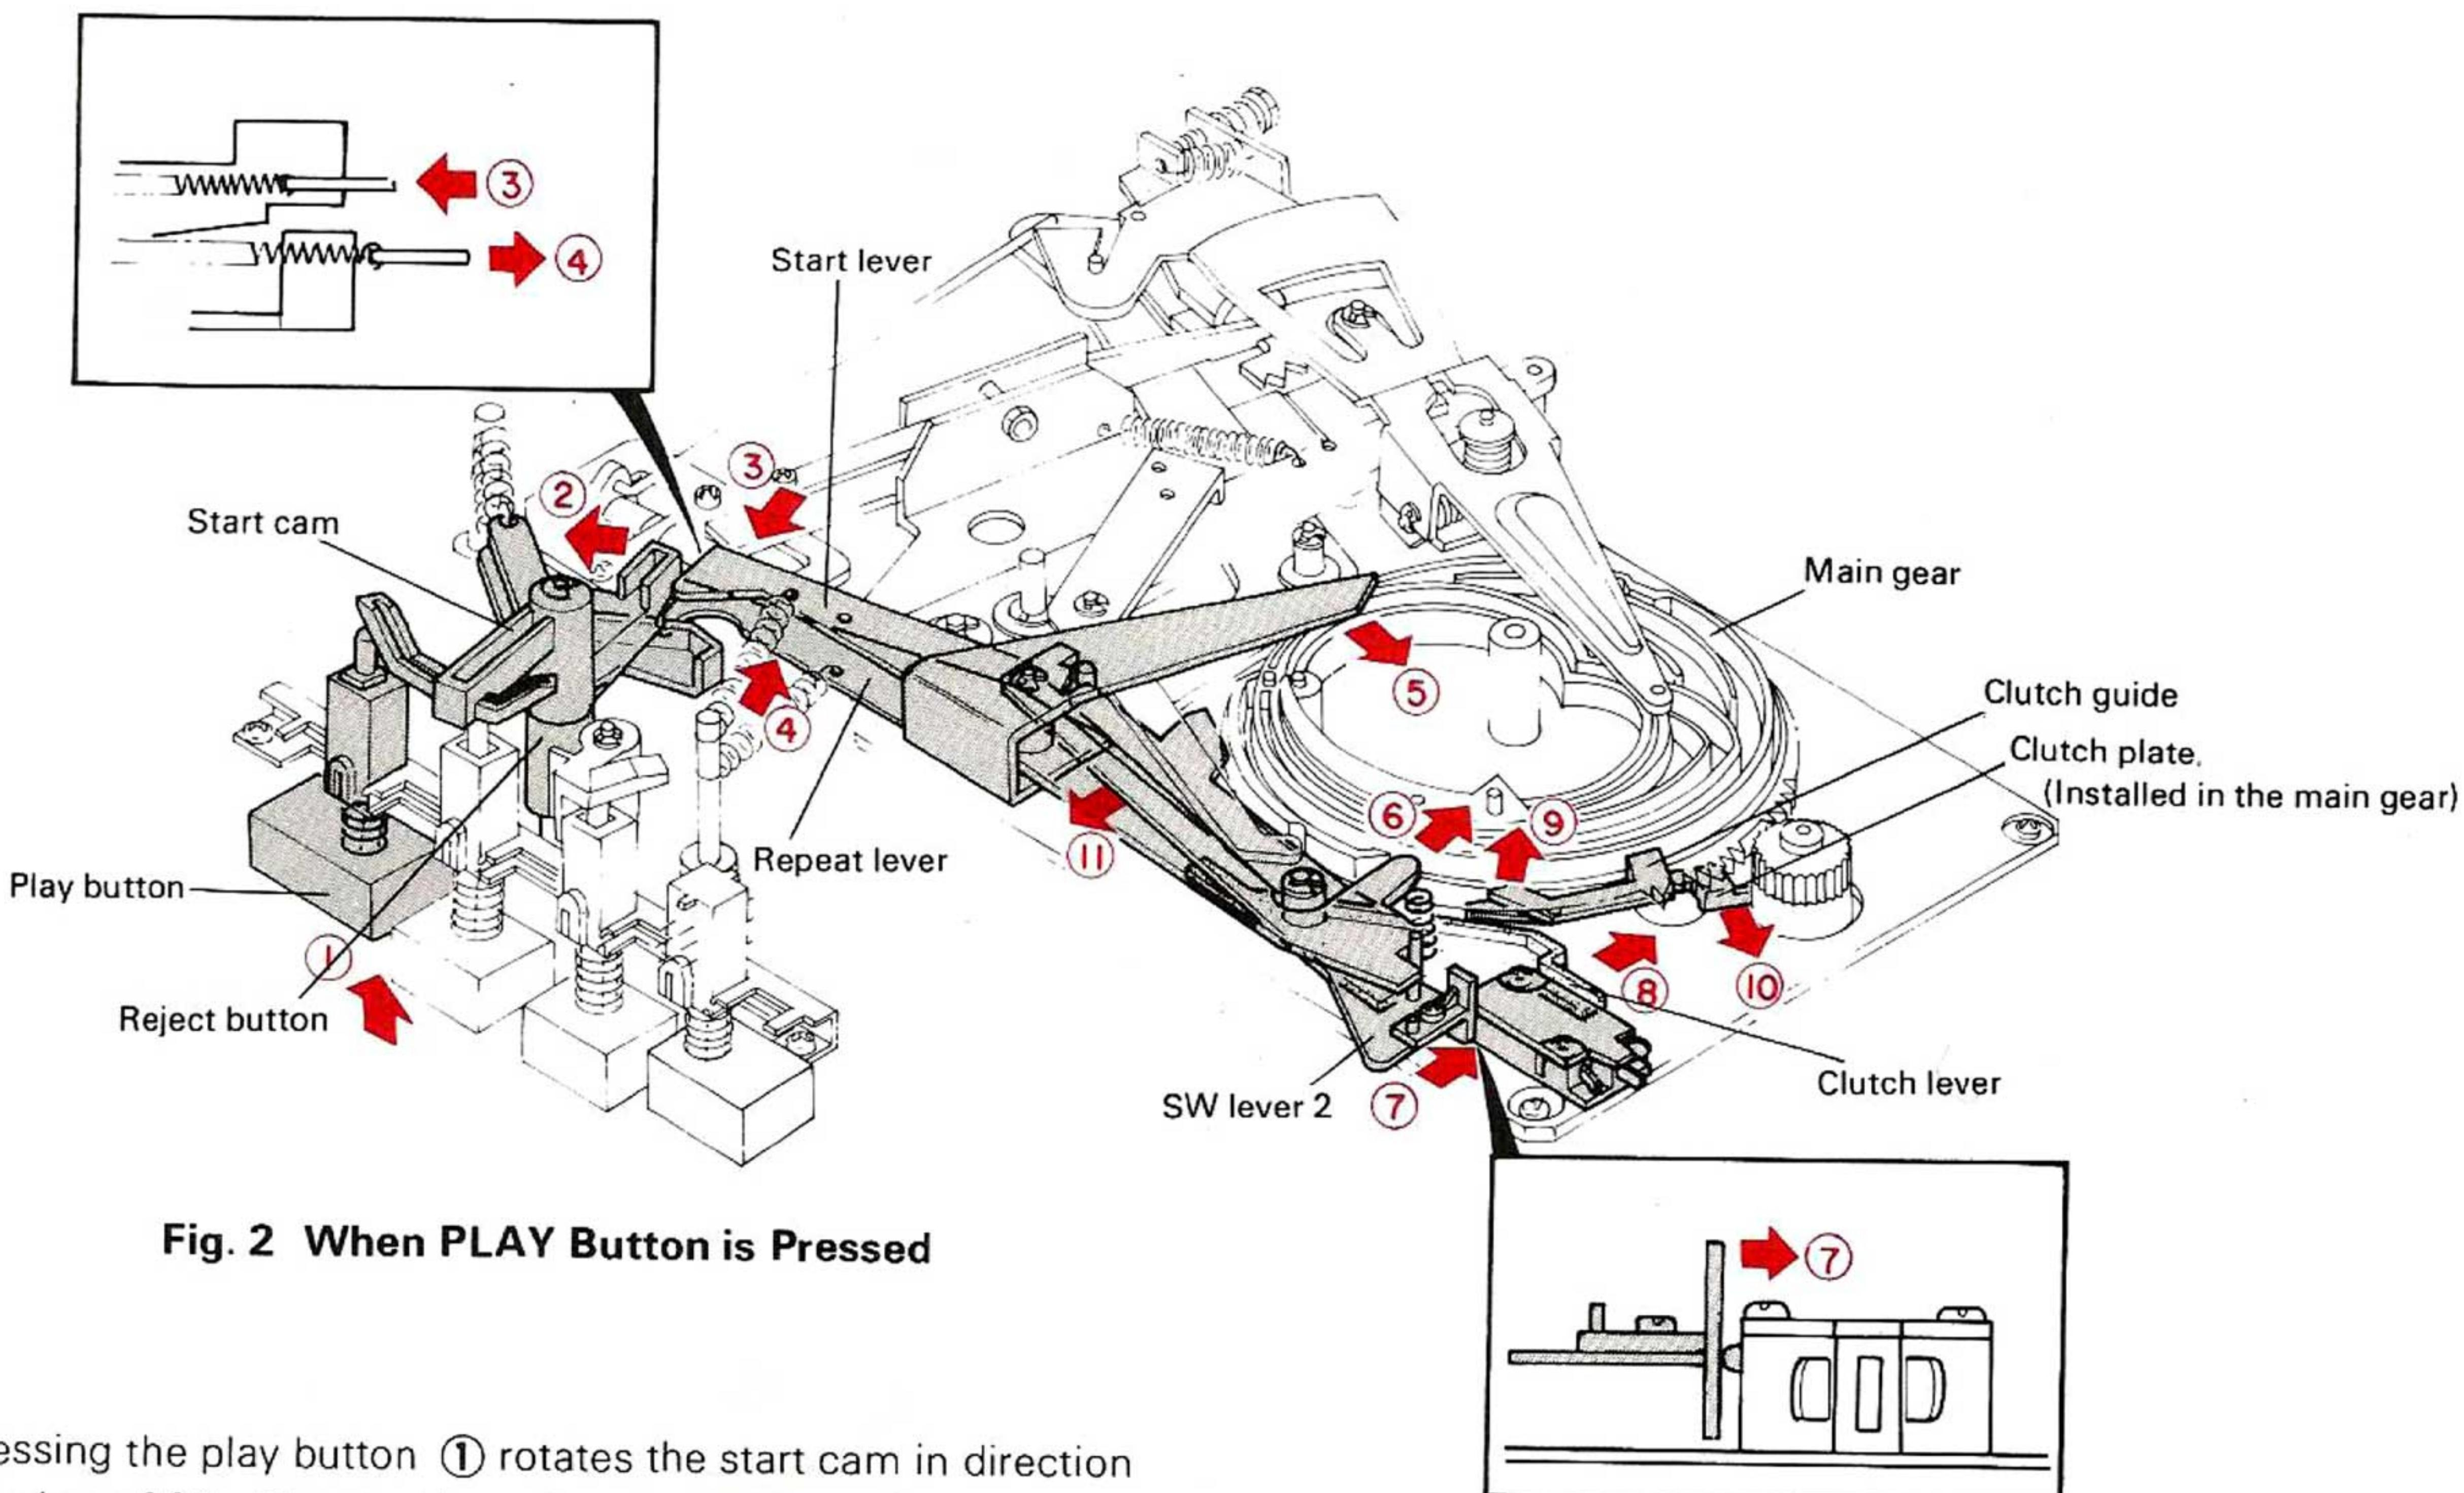

Fig. 2 When PLAY Button is Pressed
and ⑩ respectively. The clutch plate is engaged with the turntable retainer gear and the main gear starts rotating (Fig. 2). The reject lever coupled with the start cam starts rotating in direction ② and the repeat lever moves in direction ④ and ⑤ (Fig. 2).